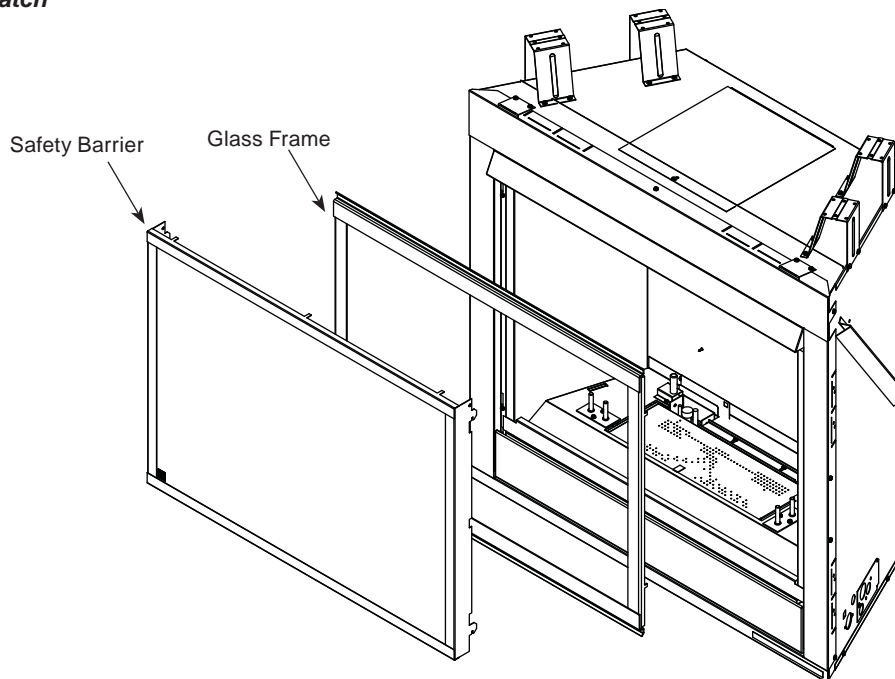

Figure 62 – Remove Safety Barrier and Glass Frame
3. Tilt glass frame out and lift glass frame up and away. *Figure 62*